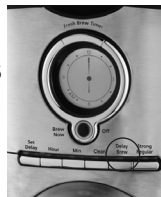

Figure 9
3. To activate DELAY BREW and program your coffeemaker to brew coffee at a later time, press the DELAY BREW button (Figure 9). The blue DELAY BREW light will turn on. The coffeemaker is now set to automatically brew coffee at the pre-set later time. At this time the brew strength light will turn on. You can select the strength that you desire by pressing the Strong, Regular button. (Amber for STRONG, white for REGULAR)
To cancel DELAY BREW: Press the DELAY BREW button until all lights turn off (Figure 9).